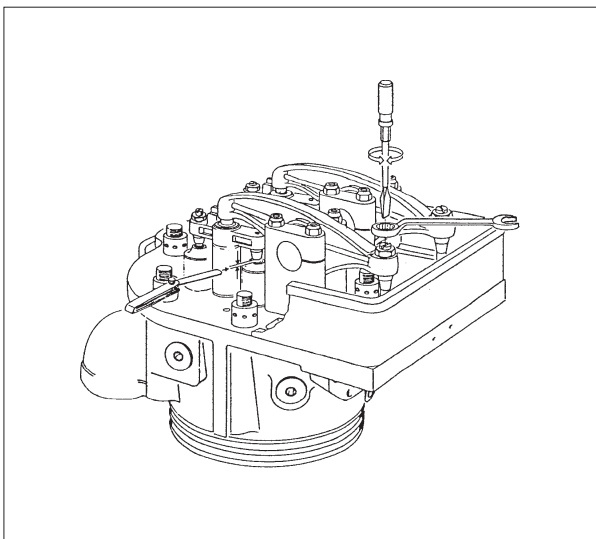

Fig. 1.
- 2) Loosen the adjustment screws on valve bridge and rocker arm, see fig. 1.
4) Place the feeler gauge marked with "correct" 0,4 mm above the valve spindle nearest to the rocker arm bracket, see fig. 1.